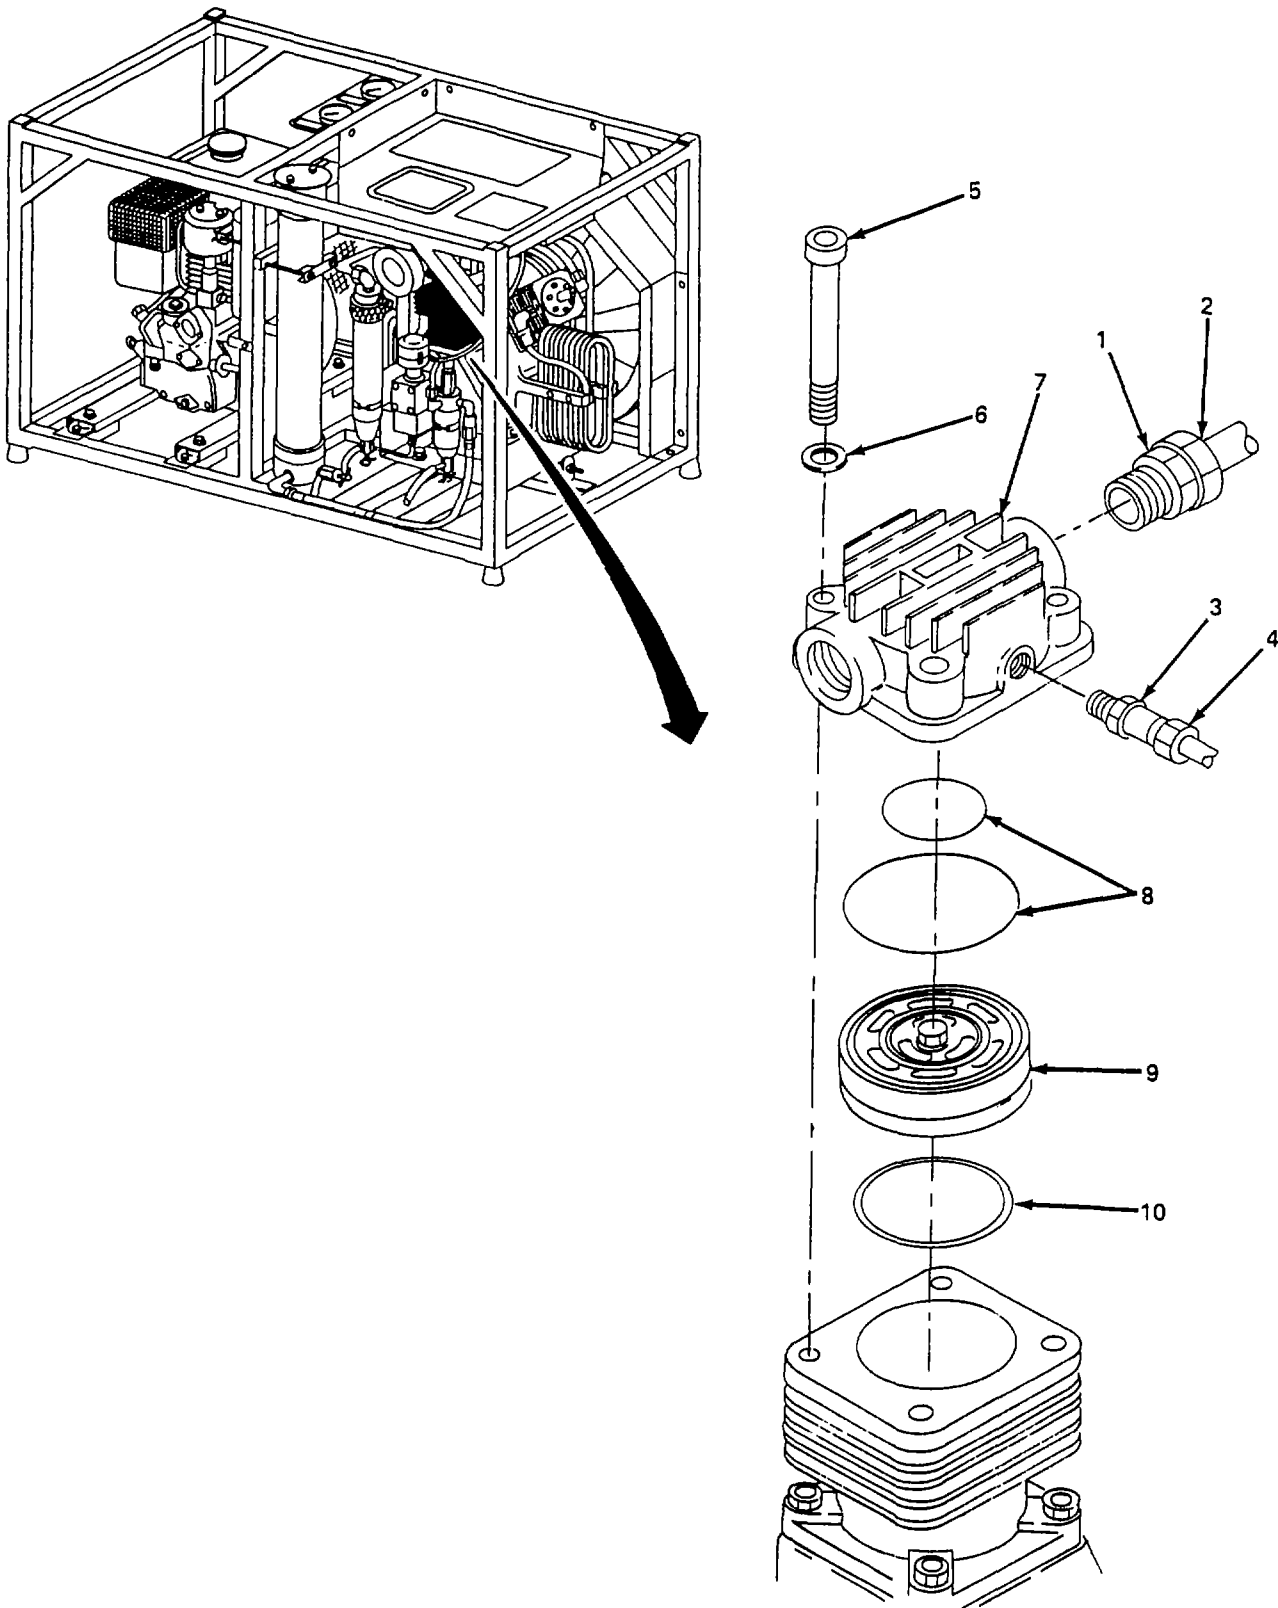

Figure 5-29. Valve Head and Valve Assembly, Replace.
- a. Replace. (figure 5-29)
- (1) Loosen connector nut (1) and disconnect line (2).
- (2) Loosen connector nut (3) and disconnect line (4).
- (3) Remove four bolts (5) and lockwashers (6), and remove valve head (7) and two preformed packings (8).
- (4) Remove valve assembly (9) and preformed packing (10). Discard preformed packing.
- (5) Install valve assembly (9) and new preformed packing (10).
- (6) Install valve head (7), two preformed packings (8), and secure with four bolts (5) and lockwashers (6). Refer to Appendix F for torque values.
- (7) Install line (4) and tighten two connector nuts (3).